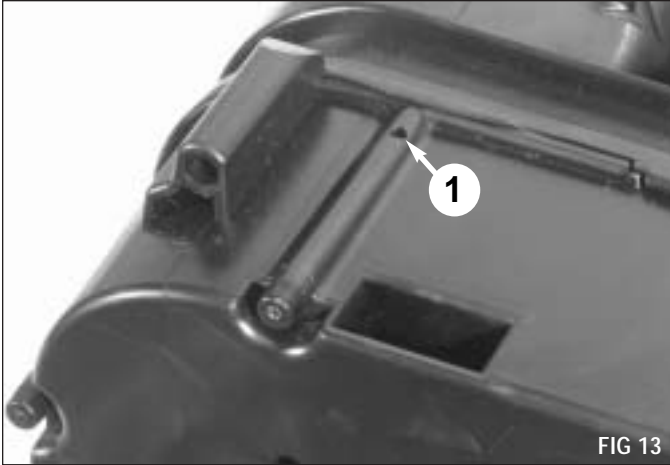

FIG 13
7. Using the drill guide, drill holes in the end caps as required for the retainer clips. Slide the drill guide over the posts on the end caps until the plate rests against the endcap and drill through hole on the drill guide (FIG 7, 8 & 9). At the places where the endcap is less wide (FIG 10), loosen the wingnut and change the position of the drill guide as shown. The required drill hole locations in the end caps are shown in FIG 11 & 12. Close up views of each hole location is shown in Figures 13 through 22.